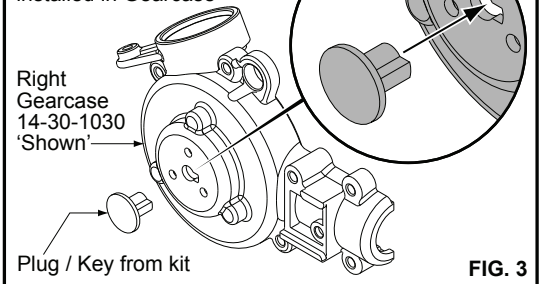

FIG. 3
2. Install **plug / key** from kit into gearcase / helical gear keyway (fig. 3).
7. Install **plug / key** from kit into gearcase / helical gear keyway (fig. 3).